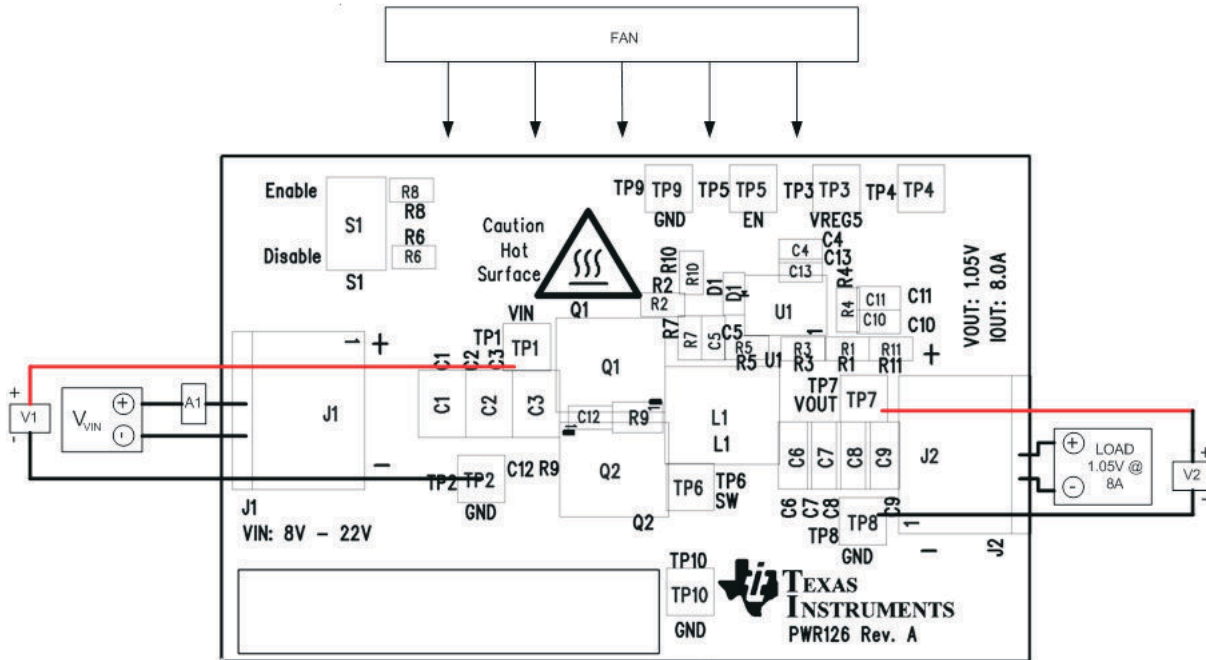

Figure 5-2. TPS53015EVM-126 Recommended Test Setup
- **VIN:** The input voltage source, V_{IN} , should be a 0-V to 30-V variable DC source capable of supplying 2 A_{DC}. Connect VIN to J1 as shown in Figure 5-2.
Figure 5-2 is the recommended test setup to evaluate the TPS53015EVM-126. Working at an ESD workstation, make sure that any wrist straps, bootstraps, or mats are connected referencing the user to earth ground before power is applied to the EVM.
- Prior to connecting the DC input source V_{IN} , it is advisable to limit the source current from VIN to 2-A maximum. Make sure VIN is initially set to 0 V and connected to J2 as shown in Figure 5-2.
Other Connections: Place a fan as shown in Figure 5-2 and turn on, making sure air is flowing across the EVM.
1. Set up the EVM as described in Section 5 and Figure 5-2.